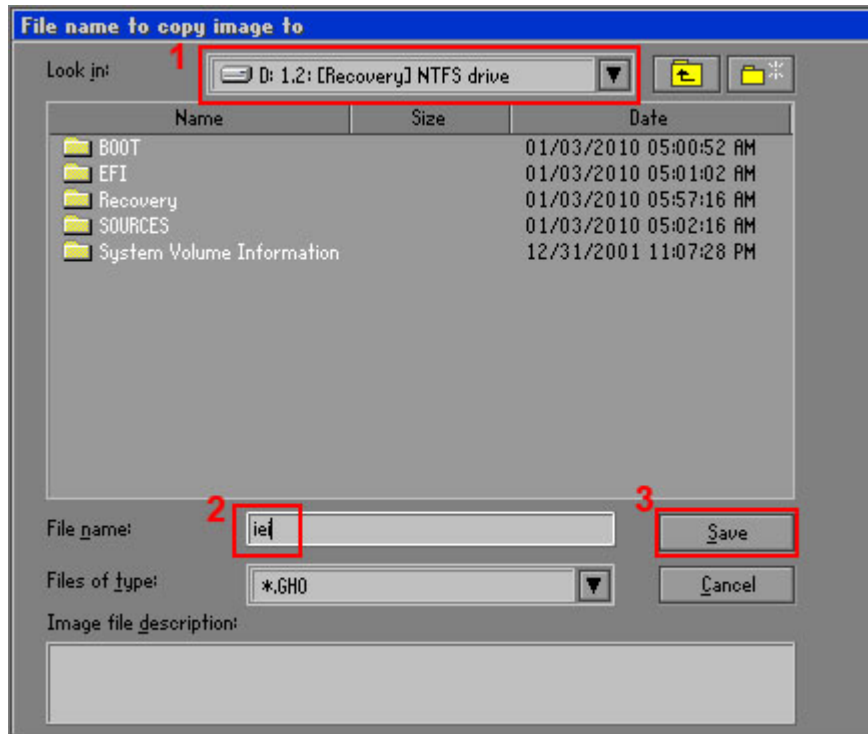

Figure A-16: File Name to Copy Image to
Step 7: Select 1.2: [Recovery] NTFS drive and enter a file name called **iei** (Figure A-16). Click **Save**. The factory default image will then be saved in the selected recovery drive and named IEI.GHO.